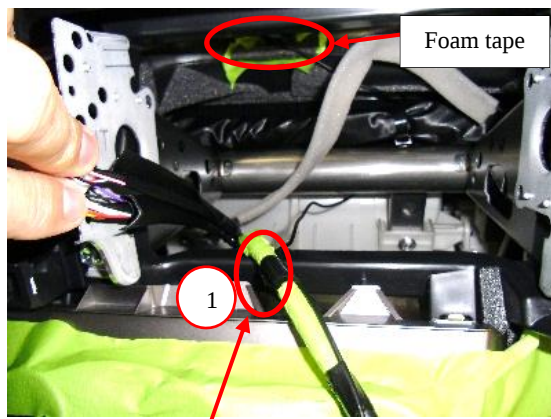
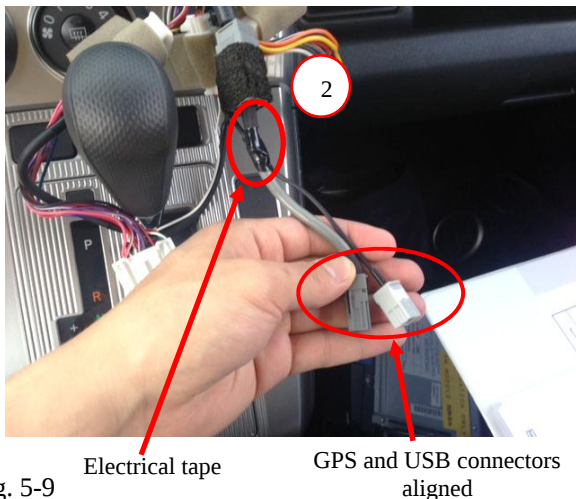

Fig. 5-8 Electrical tape
Fig. 5-9
- (k) Secure the GPS antenna wire onto the horizontal vehicle main harness bundle with foam tape. Route the GPS wire behind the harness bundle (Fig. 5-8).
- (l) Route the GPS wire along the USB cable so the USB cable and GPS antenna connectors align. Secure the GPS wire to the USB Cable with electrical tape at locations "1" (Fig. 5-8) and "2" (Fig. 5-9).